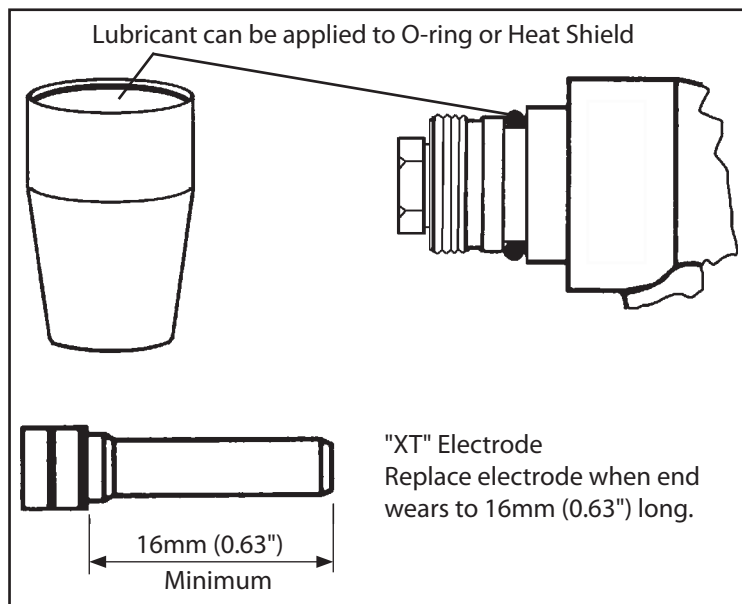

Figure 3-1 O-ring and Electrode Maintenance
3. Do not continue to use torch if the electrode erodes to a length shorter than 16mm (0.63 inch) as shown in Figure 3-1.
Apply a small amount of lubricant - 0558000443 (17672), supplied in spare parts kit, to the heat shield or to the o-ring as shown in Figure 3-1. Check o-ring for damage whenever the shield is removed. Replace if necessary. O-ring part number is 0558000514 (950790).